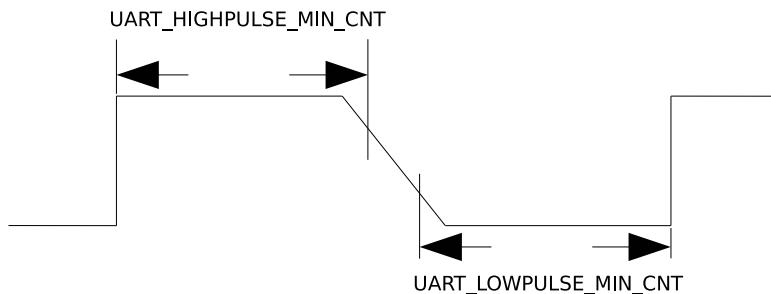

Figure 26-5. The Timing Diagram of Weak UART Signals Along Falling Edges
2. If UART signals are weak along falling edges as shown in Figure 26-5, which leads to an inaccurate average of UART\\_LOWPULSE\\_MIN\\_CNT and UART\\_HIGHPULSE\\_MIN\\_CNT, use UART\\_POSEDGE\\_MIN\\_CNT to determine the transmitter's baud rate as follows: